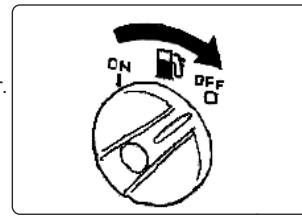

fig.13
- 6.4.5. Turn the fuel knob to “OFF”fig.13.